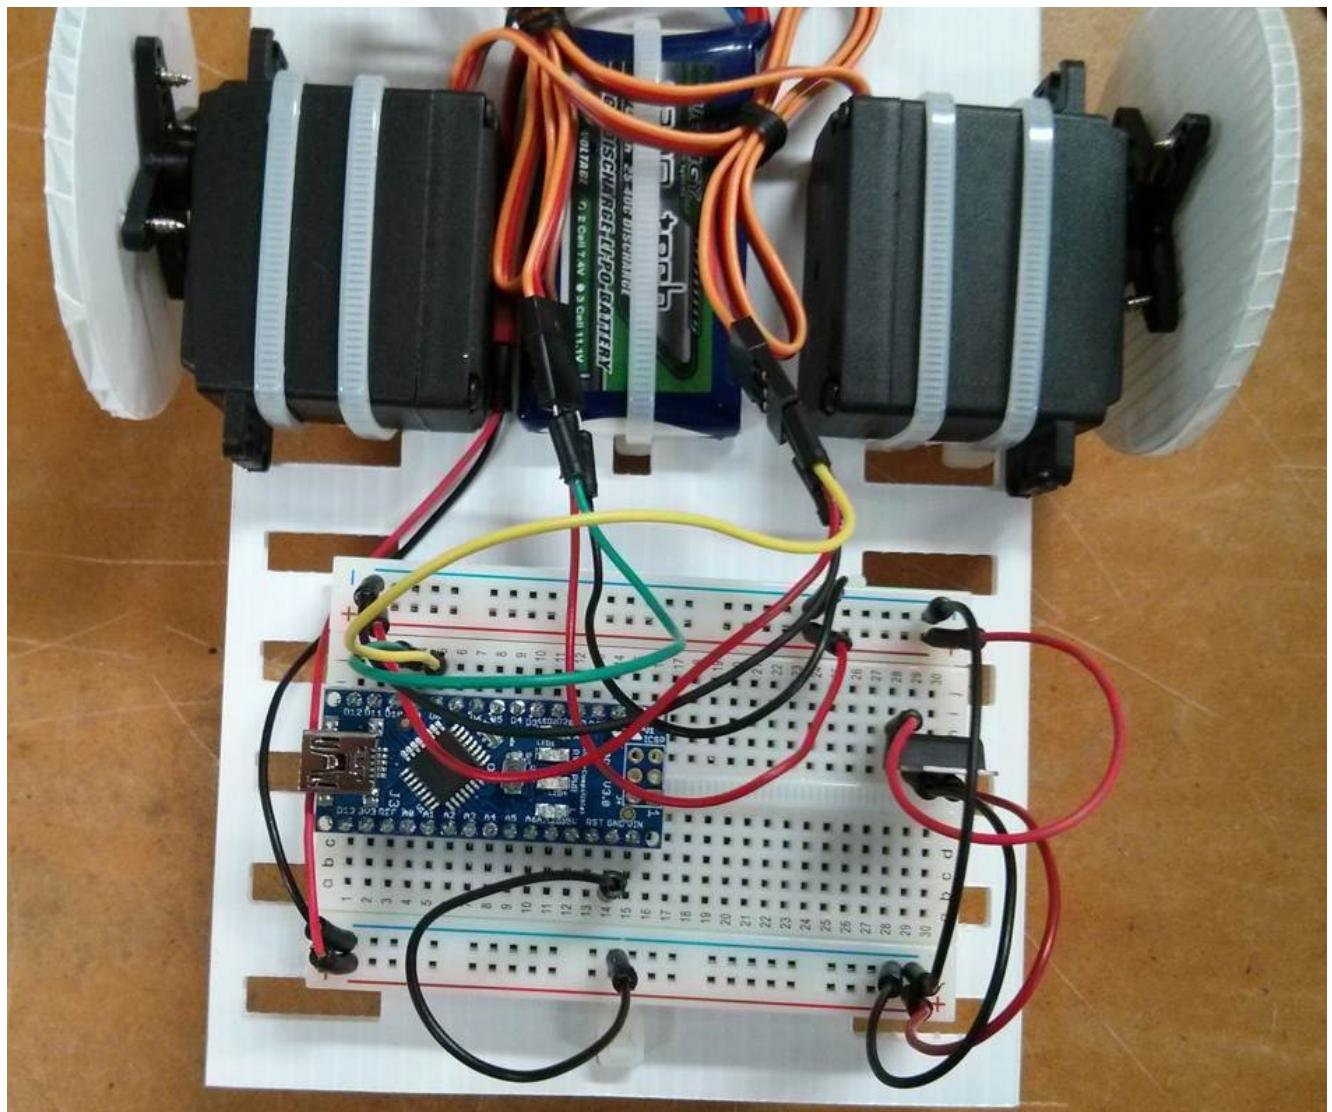

Figure 1-8. Servo wiring
9. The servos can be attached to the front power rail with voltage and ground going to each. The left servo signal wire goes to pin 9 and the right servo signal wire goes to pin 8 on the Arduino, as shown in Figure 1-8.